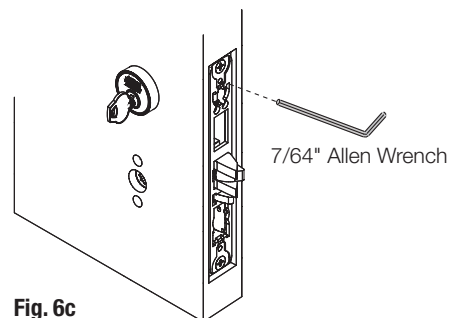

Fig. 6c
- Tighten cylinder clamp using 7/64" allen wrench. (Fig. 6c)